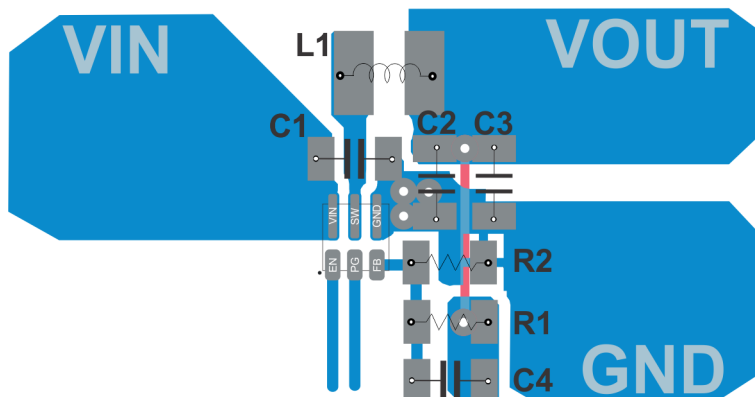

Figure 28. PCB Layout Recommendation
The printed-circuit-board (PCB) layout is an important step to maintain the high performance of the device. See Figure 28 for the recommended PCB layout.
- Refer to Figure 28 for an example of component placement, routing and thermal design.